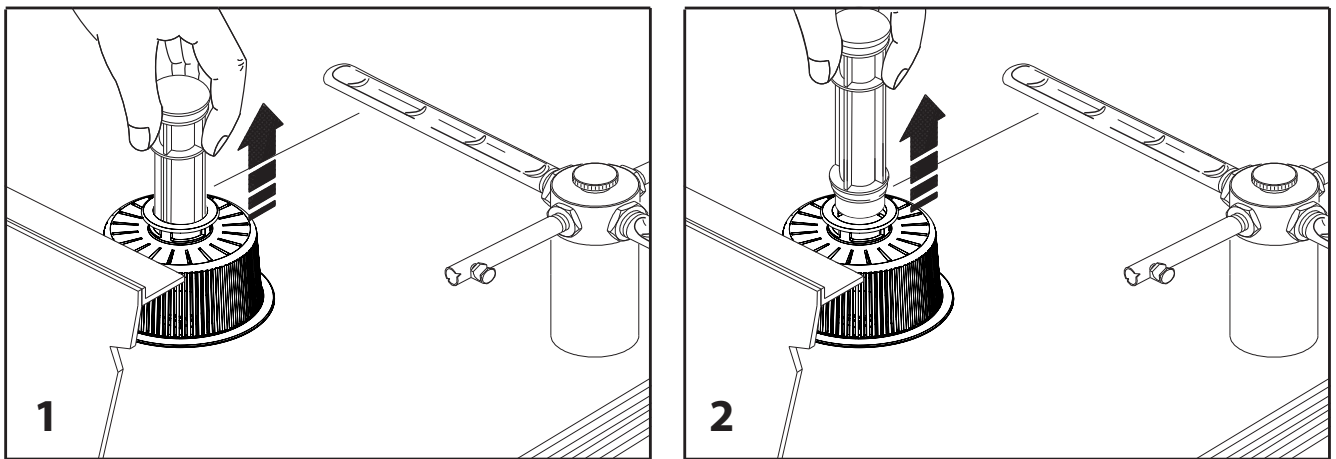

Fig. 16
1. Switch off the dishwasher (by using the POWER ON SWITCH (2), see par. 4.6) and disconnect it from the electrical network
2. Remove the overflow pipe (fig. 16)